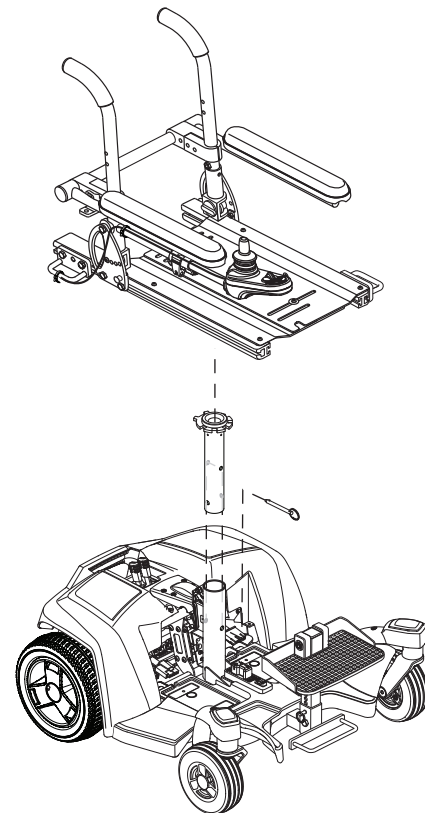

Figure 4. Seat Installation
5. Secure the controller harness to the armrest with wire ties. **See figure 4.**
3. Disconnect the controller from the power base. **See figure 4.**